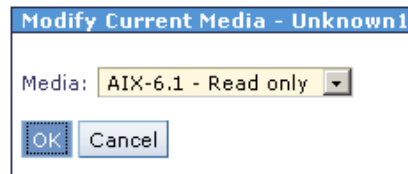

Figure 6-23 Create partition - modify current media of virtual optical device
12. Change the selected media from None to **AIX-6.1 - Read only** and click **OK**. See Figure 6-23.